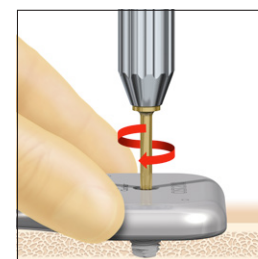

Fig.21: Attaching the actuator to the BI300 Implant.
8. Place the centre of the actuator on top of the BI300 Implant and gently hand-tighten the fixation screw with the screwdriver, while holding the actuator with your fingers (Fig.21).